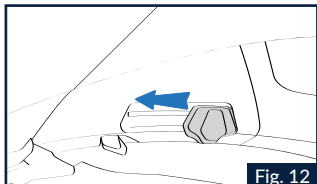

Fig. 12
1.1 To activate the VPS, move the slider as in Fig.12 until you hear a click that means that the VPS is in the desired position.
3.1. Open the helmet chin guard and lower the VPS completely (see instructions above) (Fig.12).
4.1 Open the helmet chin guard and move the side slider until it stops (see instructions above) (Fig.12).